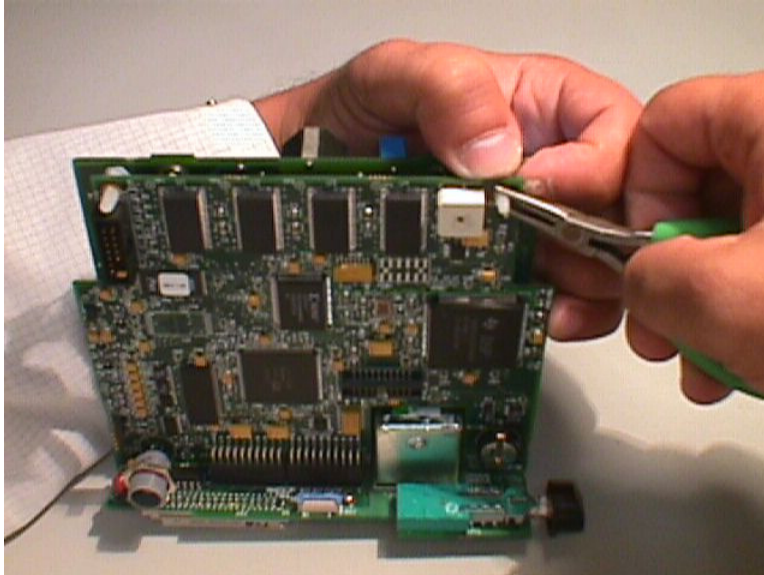

Figure 7-9 Release standoff tab by squeezing with needle-nose pliers
3. To separate Main PCB from Interconnect assembly, release standoff tab by squeezing with needle-nose pliers, while gently separating at standoff. Repeat for second standoff tab. (See Figure 7-9).
Refer to Figures 7-9 through 7-14.
4. To separate Power Supply PCB from Main PCB, release standoff tab by squeezing with needle-nose pliers, while gently separating at standoff. Repeat for second standoff tab. (See Figure 7-9).